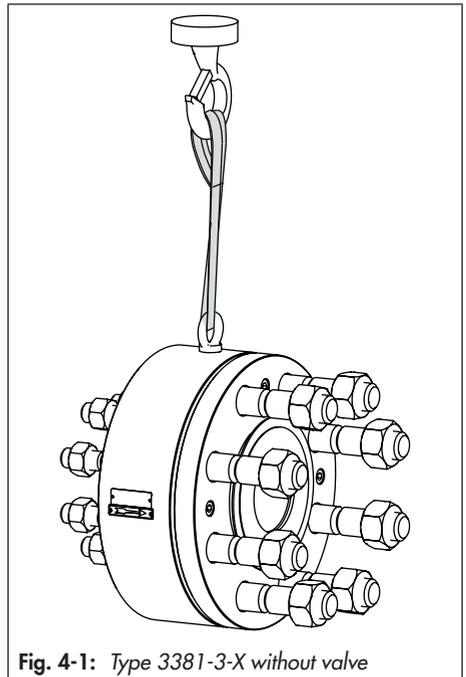

Fig. 4-1: Type 3381-3-X without valve
- *Use a hook with safety latch (see Fig. 4-1) to secure the slings from slipping off the hook during lifting and transporting.*
- Use a hook with safety latch (see Fig. 4-1) to secure the slings from slipping off the hook during lifting and transporting.
1. Attach a sling to the lifting eyelet/eyebolt on the silencer and to the rigging equipment (e.g. hook) of the crane or forklift (see Fig. 4-1).